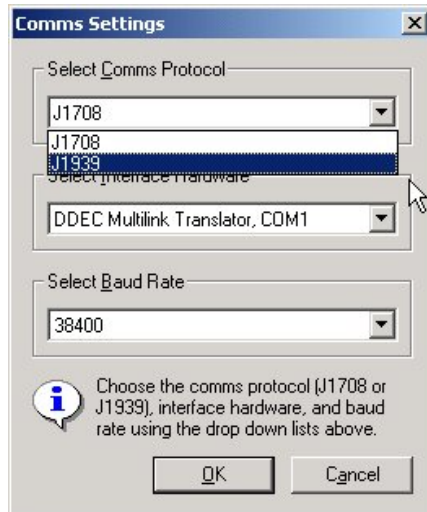

Figure 2
2. Change the Comms protocol from J1708 to J1939 (Figure 2).